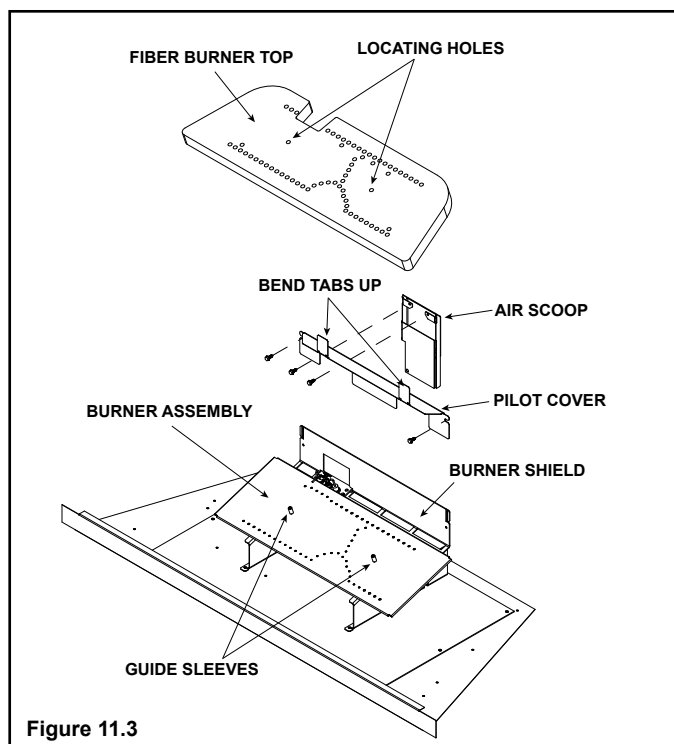

Figure 11.3
1. Bend the two tabs upward as shown in Figure 11.3.